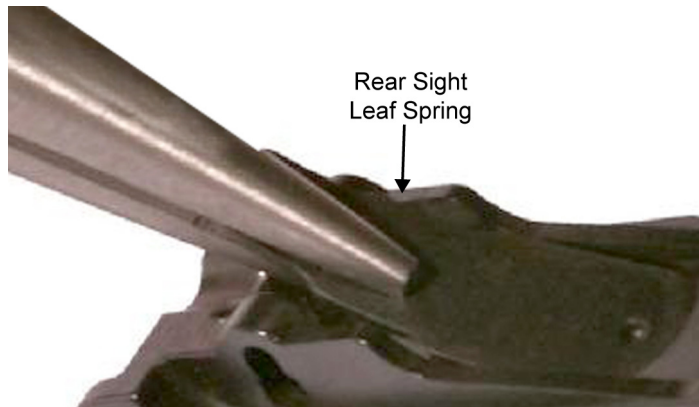

Figure 7. Removing the Rear Sight Leaf Spring.
11. To remove the rear sight leaf spring, pull up at a 45 degree angle on the narrow, forward end with needle-nosed pliers. Refer to Figure 7.